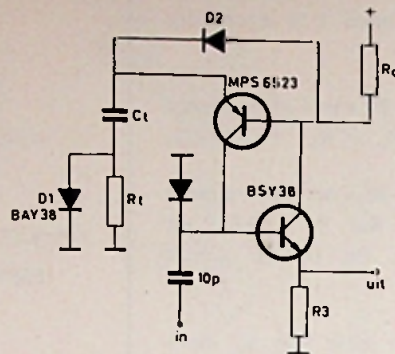

Fig. 12. Multivibrator monostabiel.
f) *Multivibrator monostabiel* (fig. 12)